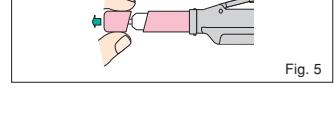

Fig. 5
a) Remove the cartridge cover. (Fig. 5)